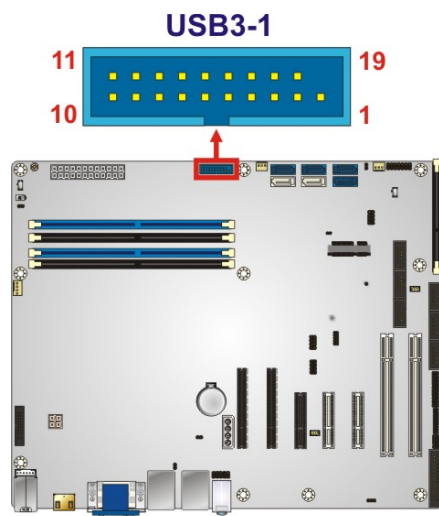

Figure 3-33: USB 3.2 Gen 1 Connector Location
- CN Location:** See **Figure 3-33**